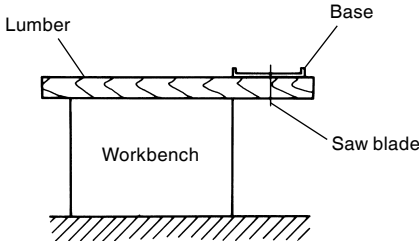

Fig. 2
5. Prepare a wooden workbench (Fig. 2)
6. How to store the hex. bar wrench (Fig. 2)